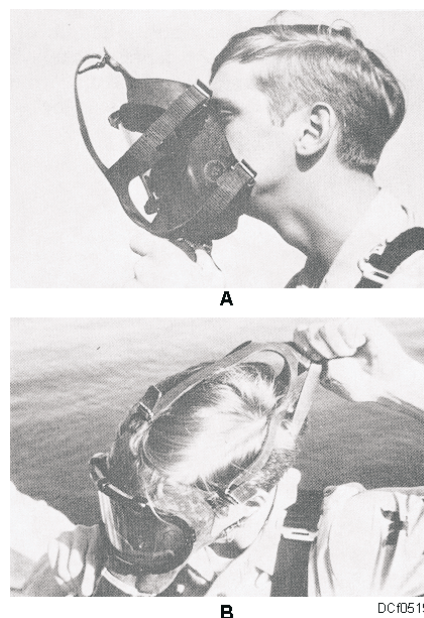

Figure 5-19. Step 6, donning the facepiece, views (A) and (B).
- b. Insert your chin into the chin stop of the facepiece (fig. 5-19, view A).
- c. Pull the head straps from the front of the facepiece over your head (fig. 5-19, view B). Be sure your hair is not under the facepiece shield.